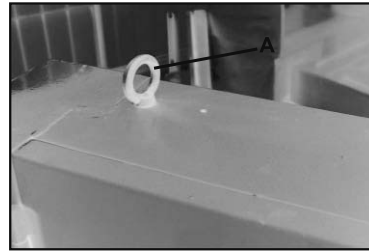

Fig. 1
- Use a 2000kgs wrecker hang up the machine on parts A (Fig. 1) to suitable space.